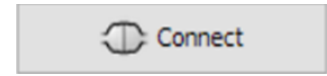
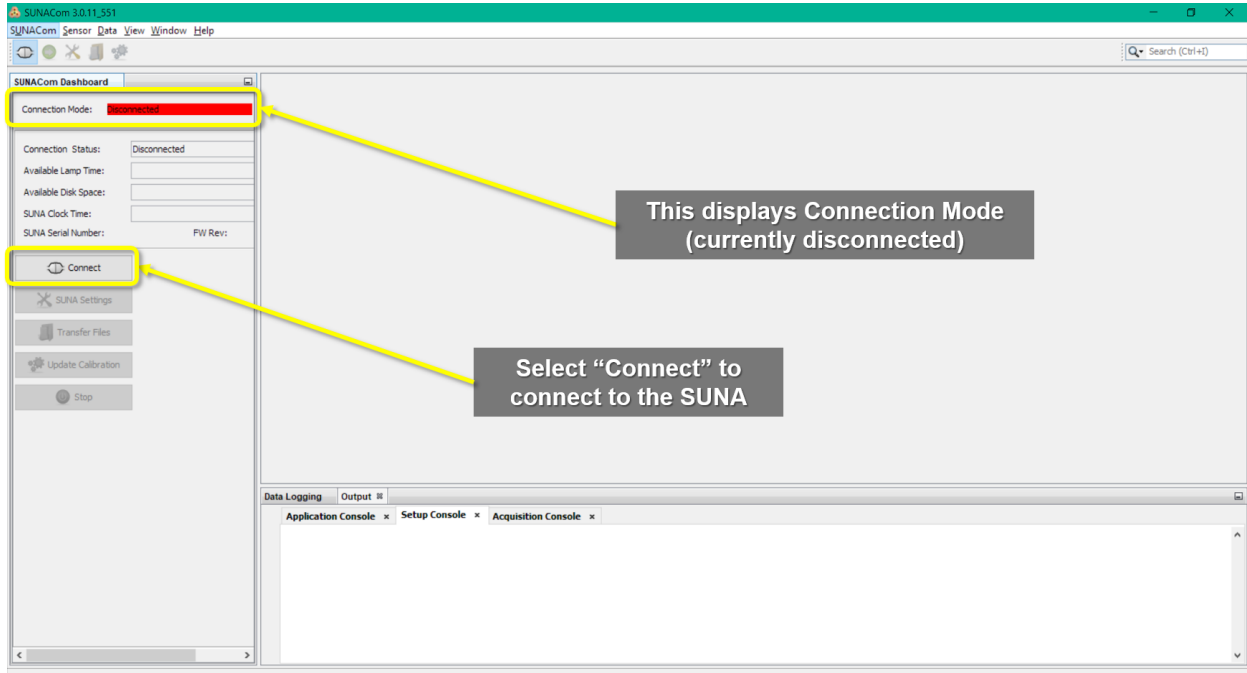

Figure 49. "Connect" Icon
Figure 50. Select the "Connect" Icon (Connection Mode: Disconnected)
5. Select the **“Connect”** icon on the left hand side of the window (see Figure 49 and Figure 50)